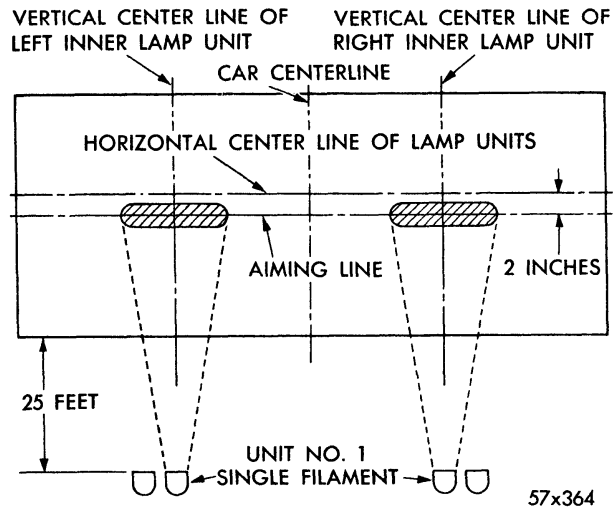
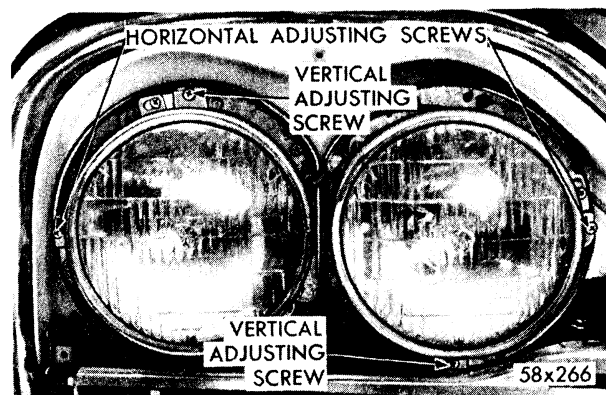
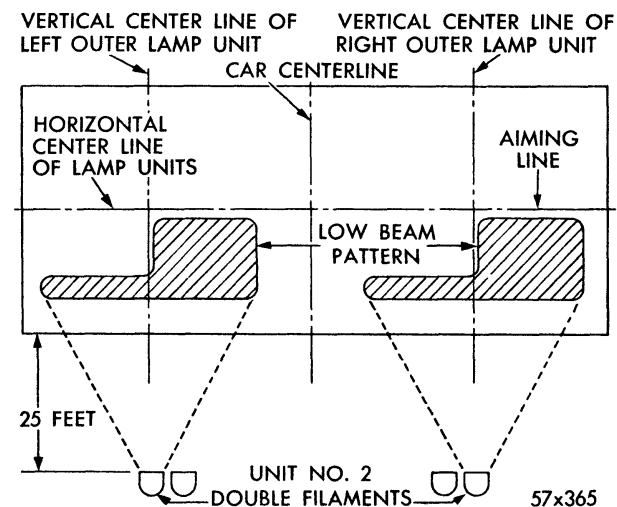

Fig. 28—Adjusting Single Filament Headlight
Fig. 29—Adjusting Dual Headlight
Fig. 30—Adjusting Double Filament Headlight
The dual headlight system has two $5\frac{3}{4}$ inch Sealed Beams on each side of the front of the vehicle. (Fig. 29).
Place car on level surface with screen 25 feet ahead of headlight lenses. The screen (or wall) should be painted a light color. The horizontal line on screen should be 2 inches below center line of headlights (Fig. 28). The center vertical line should be equi-distant from two outer lines which represent vertical center of headlights.
Car should be on a level floor, directly facing the screen, 25 feet from the headlight lenses. Locate the center line of the car with the center vertical line of the screen. By measuring from the floor to the center of the head lamps determine the horizontal center line of the lamps. Transfer this measurement to the screen; then, locate the horizontal aiming line two (2) inches below the head lamp horizontal center line (See Fig. 28).
It will be necessary to determine vertical center lines of both inner and outer head lamps from the center of the car. Alignment should be made on the inner lamp on high beam as in Figure 28 (block off outer lamps). On low beam, adjust the outer lamp units in accordance with the low beam pattern as shown in Figure 30. Adjustment is obtained by screws at top and sides of headlights (Fig. 29).